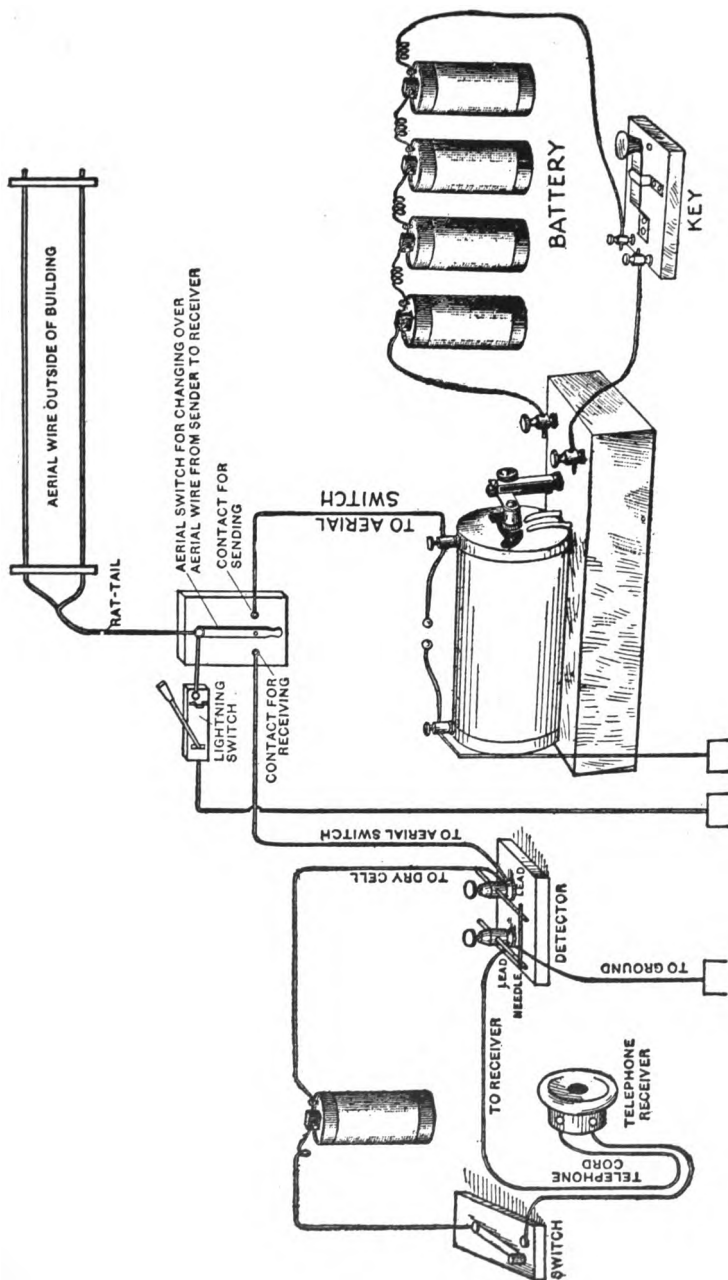

Fig. 40.—The Sender, Receiver and Aerial Wired Up and Ready for Business.
**Connecting up the Sender and Receiver to the Aërial and Ground.**—Connect the top wire of the aërial switch to the leading-in wire of the aërial. To the left-hand lower wire of the aërial switch connect the wire of the binding post of the detector marked *to aërial* as shown in Fig. 40, which is a complete wiring diagram of the whole station. Connect the right-hand lower wire of the aërial switch to the binding post of the spark-gap marked *to aërial switch*. Connect the wire of the binding post of the detector marked *ground* with the sheet of zinc buried in the ground; and finally connect the binding post of the spark-gap marked *to ground* to the same wire that the detector is connected with and which leads to the zinc plate in the ground. In other words, one sheet of zinc furnishes a ground for both the sender and the receiver. All of the connections are clearly shown in the outline drawing Fig. 40.
A *single pole, single throw* switch must be connected in between the top wire of the aërial switch and ground wire as shown in Fig. 40. This switch is to protect your apparatus from what is called *static electricity*, that is electricity which charges the air and the ground just before the coming of a storm. When sending and receiving this switch is *open*, but always *close* it when you are through working. A switch of this kind can be bought, or if you want to make one you will find the drawings, Figs. 147 and 148, and description needed on page 151. Before using your set read the Fire Underwriters' Rules given in Chapter III, Part III, page 199.